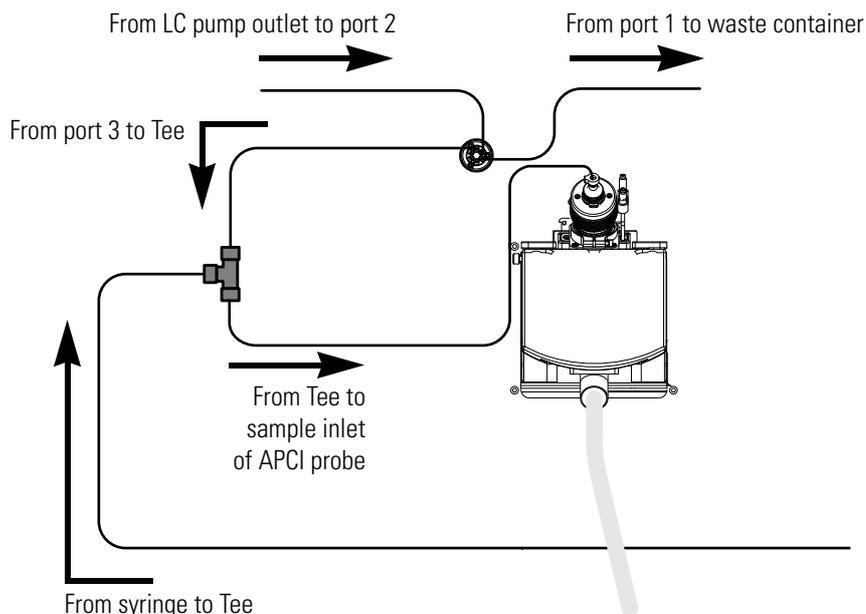

Figure B-7. Plumbing diagram showing APCI/MS sample introduction with high-flow infusion
1. Using a fingertight fitting and a ferrule, connect one end of a length of red PEEK tubing to the union Tee. Figure B-7 shows the connections to the union Tee.
- For the APCI probe, use a fingertight fitting and a ferrule to connect the other end of the tubing directly to the sample inlet of the APCI probe. Figure B-7 shows the connection between the union Tee and the sample inlet of the APCI probe.